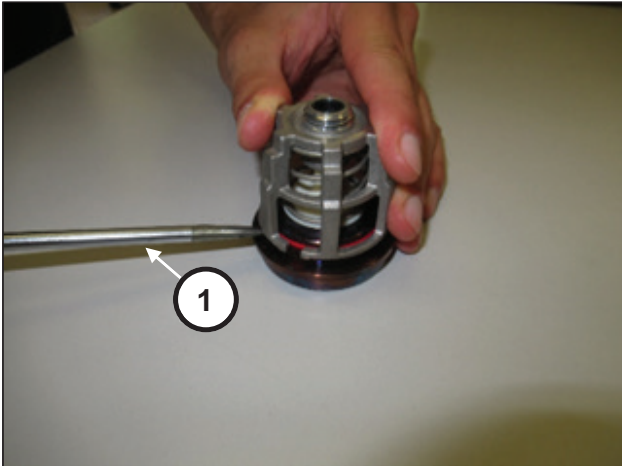

Fig. 110
Disassemble the suction and outlet valve units by levering with simple tools (pos. ①, Fig. 110).